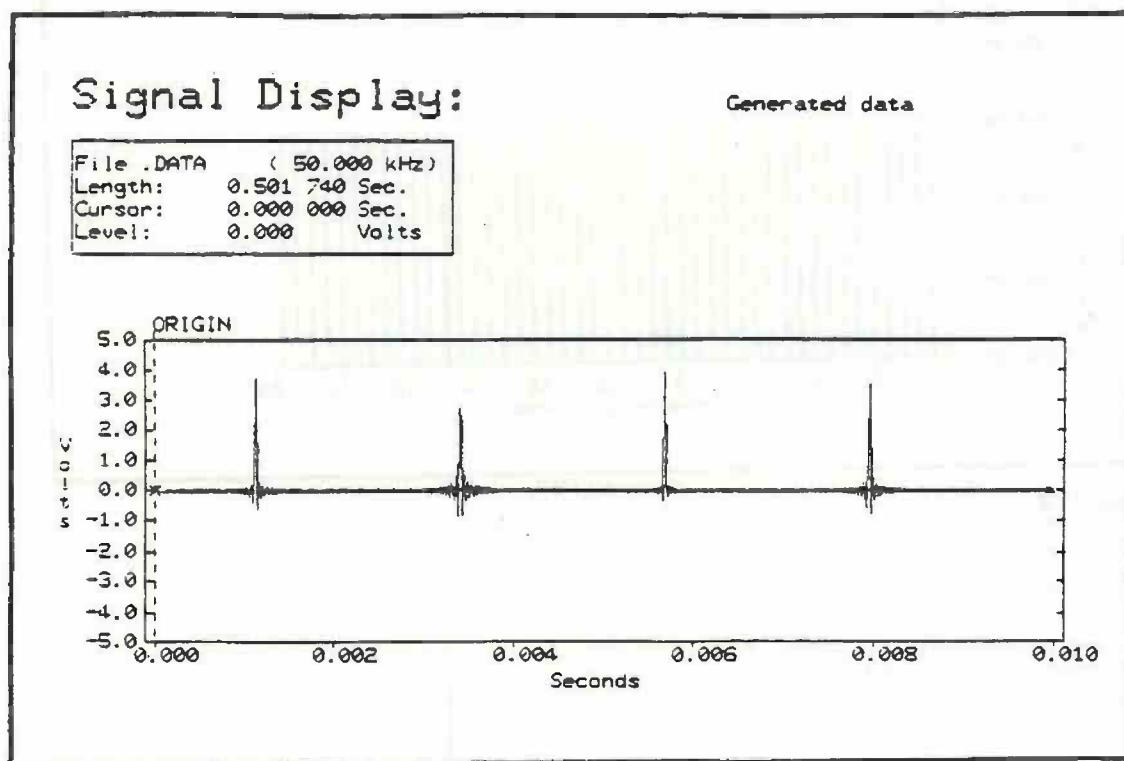

Figure 11.5
6. When the computation is completed, press RETURN to see the signal file (Figure 11.5).